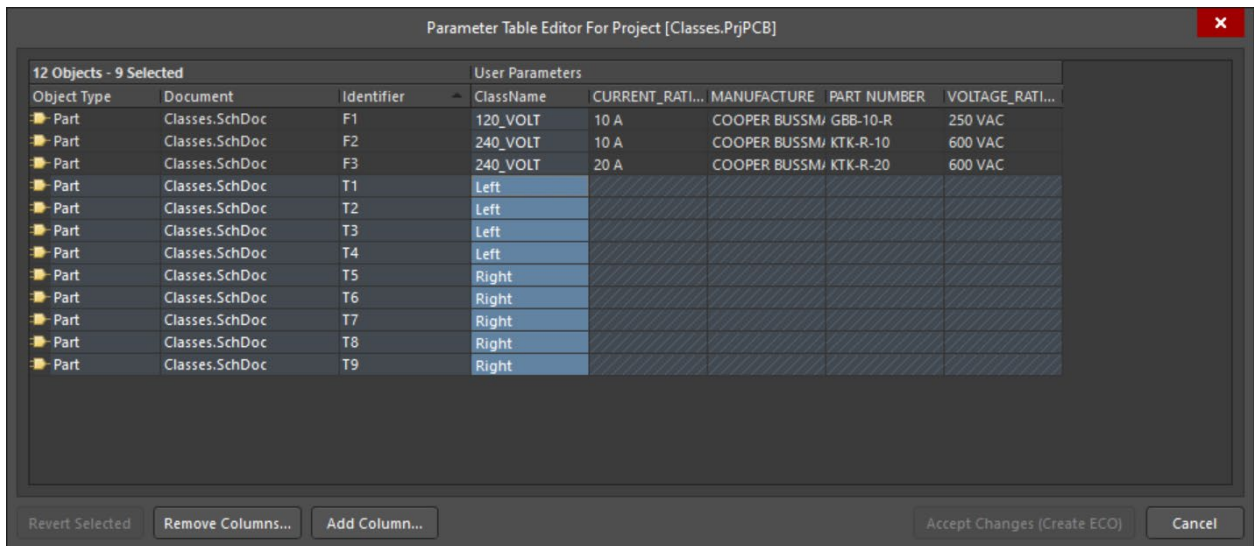

Figure 6: Populated Parameter Table
33. Your parameter table should now look similar to what is shown below, Figure 6.